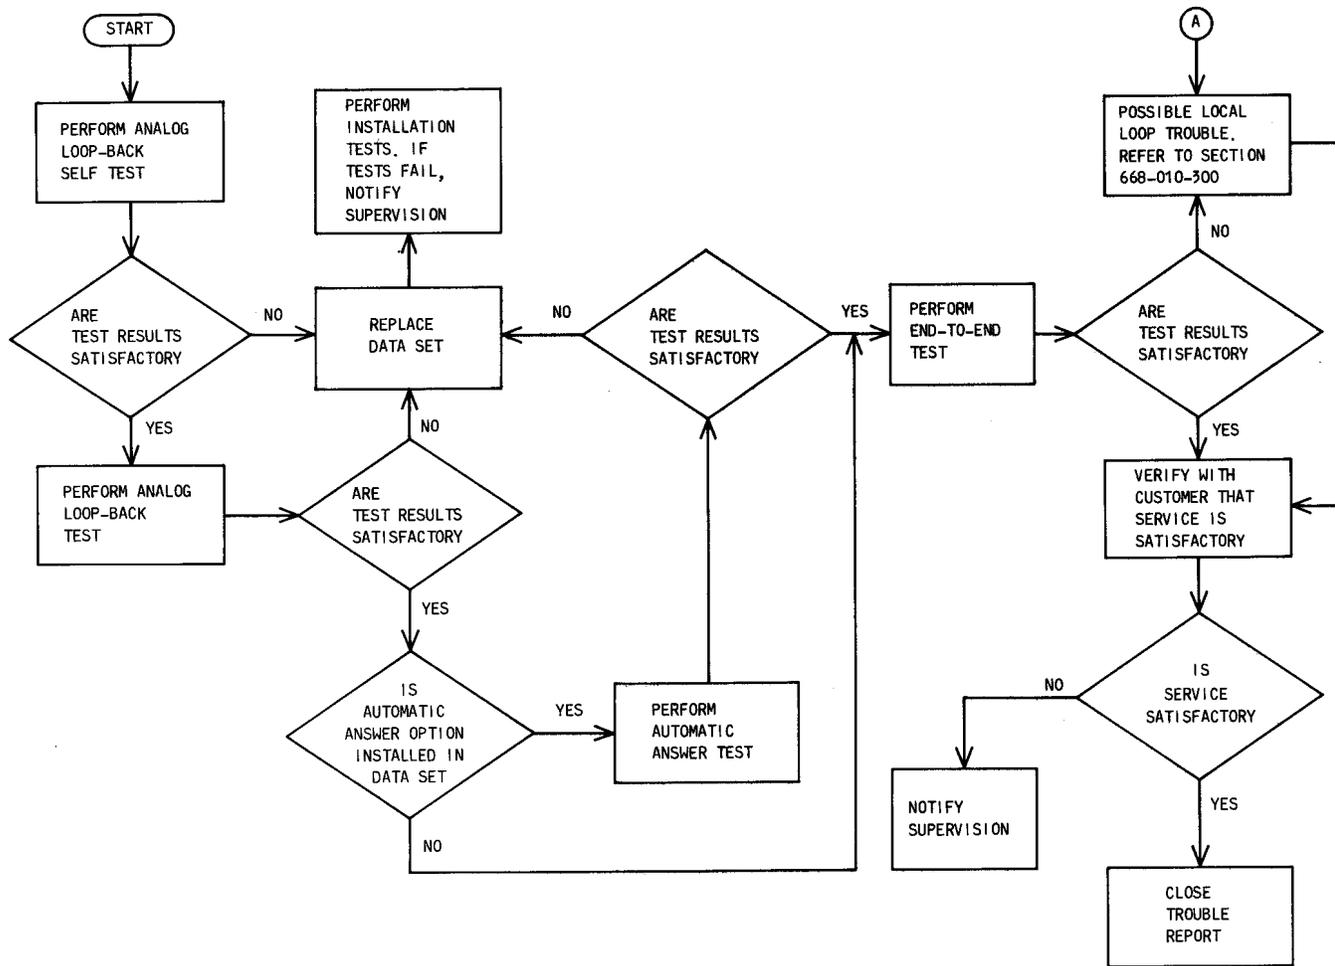

Fig. 4—Maintenance Test Sequence (2-Wire Switched Network)
**3.02** For a 2-wire switched network, the maintenance test sequence is shown in Fig. 4.